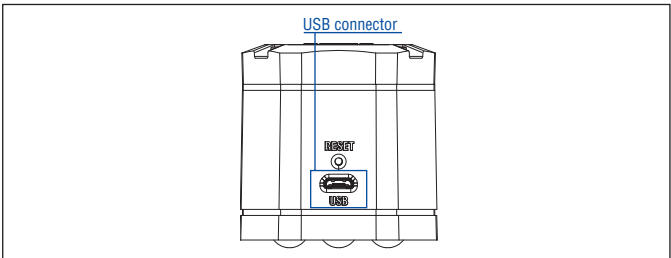

Fig. 78: USB port on the TempoLink® smart assistant
1. Connect the USB cable with the micro USB connector to the port labeled “USB” on the TempoLink® smart assistant (Fig. 78).